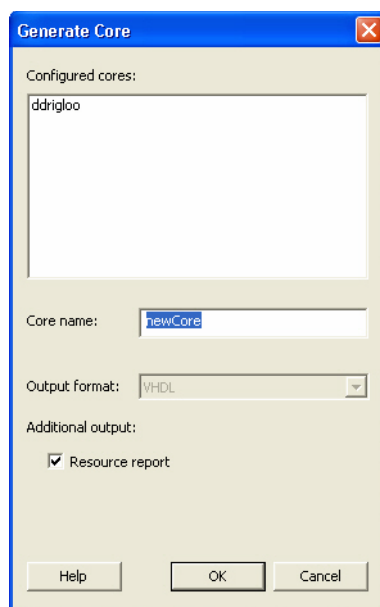

Figure 8-4 • Generate Core Window
- Once the desired configuration is selected, click the **Generate** button. The Generate Core window opens (Figure 8-4).